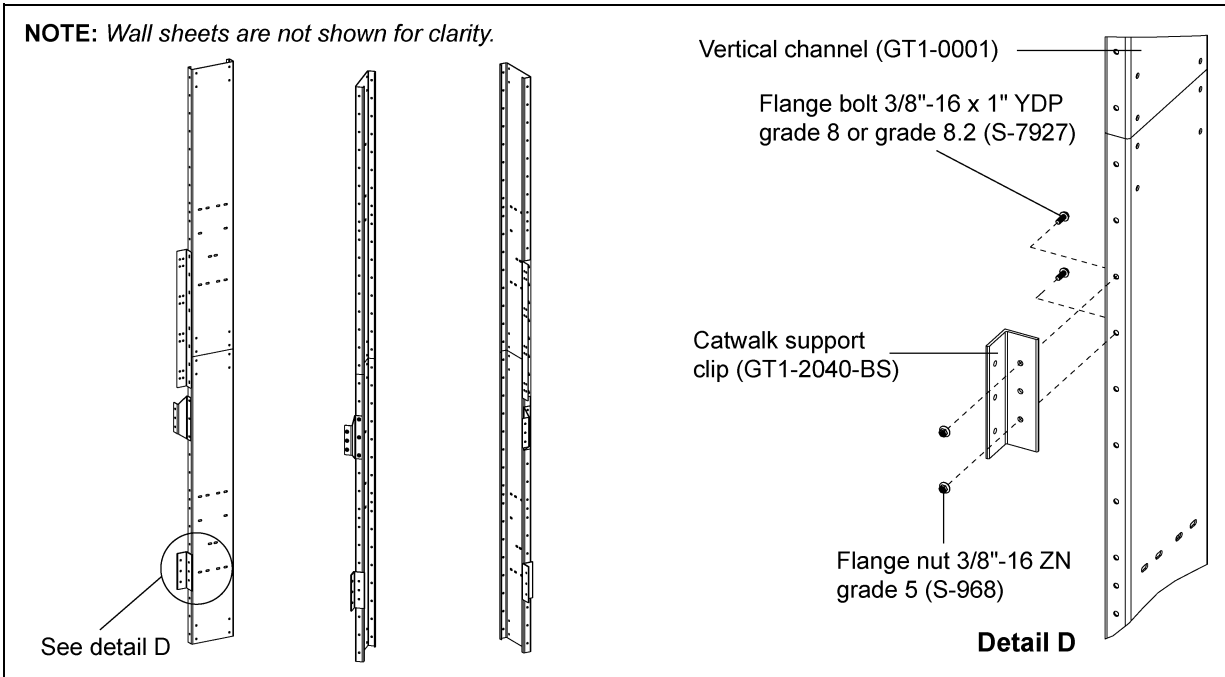

Figure 6G Offset Catwalk Support Clip Installation
1. Install the catwalk support clips (GT1-2040-BS) to the vertical channel (GT1-0001). Support clip can be installed on each vertical channel as the wall sheets are installed using 3/8"-16 x 1" YDP grade 8 or grade 8.2 bolts (S-7927) and 3/8"-16 ZN grade 5 nuts (S-968). (See Figure 6G below and Figure 6I on Page 46.)